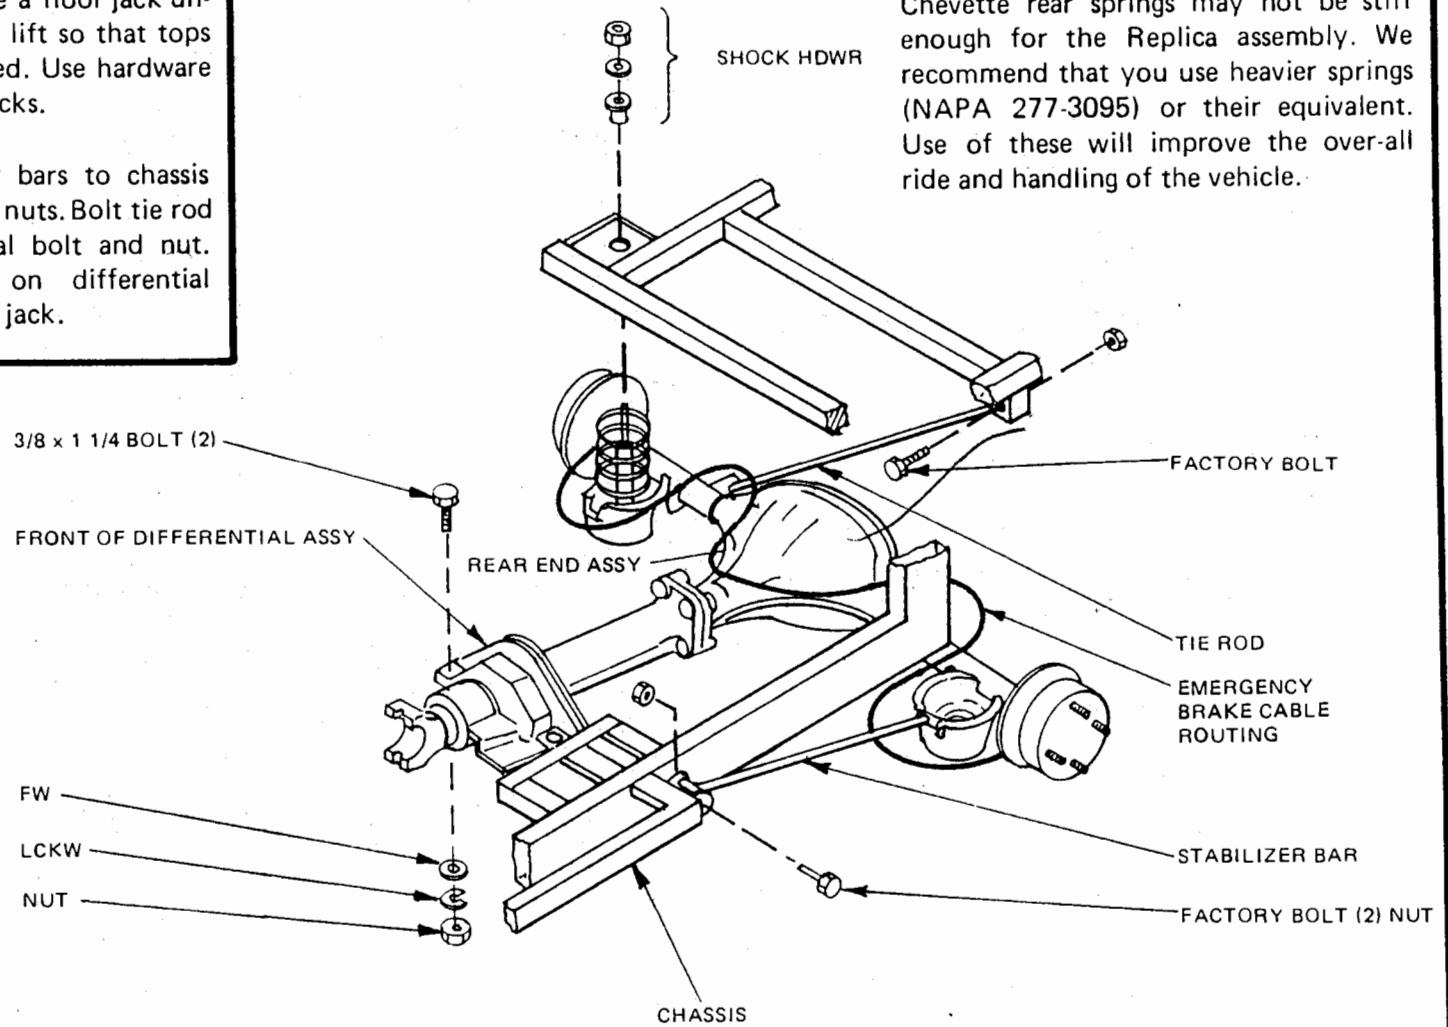

Figure 2
- Roll assembly under chassis and bolt front of differential extension onto chassis (Figure 2) using 3/8 x 1 1/4" bolts with flat washers, lock washers and nut. Hand tighten. Place a floor jack under the differential and lift so that tops of shocks can be secured. Use hardware supplied with the shocks.